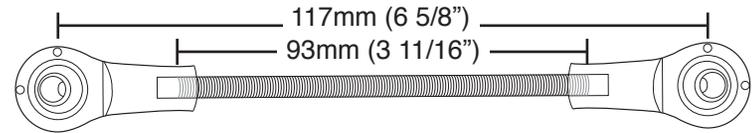

fig. 11
1. Trim the threaded rod that comes with the 3H linkage height sensor pack to 93mm (3 11/16") (Fig. 11). The linkage assembly will be 117mm (6 5/8") from eye to eye. The linkage must have a minimum of five threads of engagement on both ends.